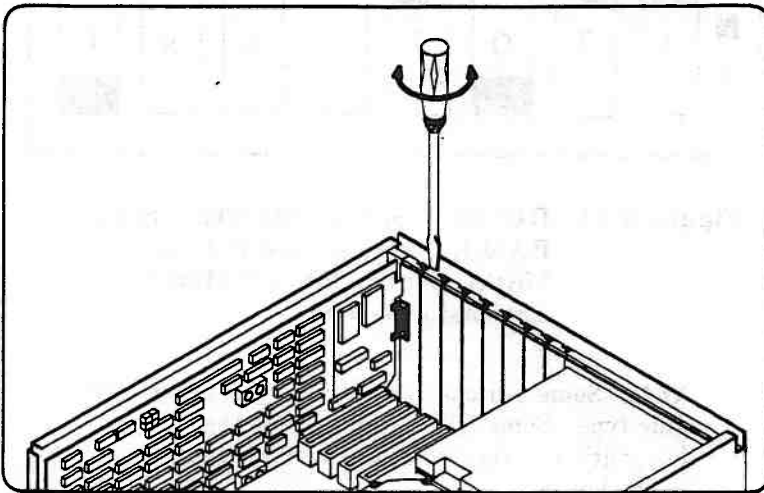

Figure 3-12. Removing the Expansion Slot Cover
12. Using a screwdriver, remove the Expansion Slot Cover of the second dual connector expansion slot (Figure 3-12).